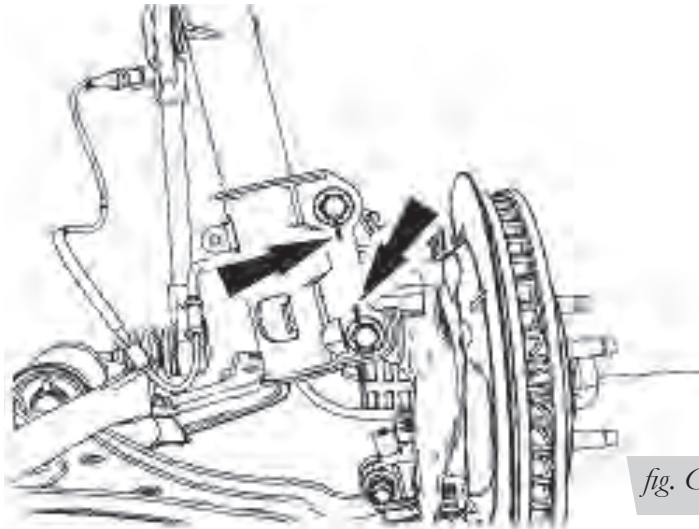

fig. C.3
4. Support the hub assembly, unthread the spindle nuts and remove spindle bolts from the strut assembly (Fig. C.3).